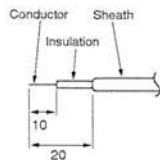
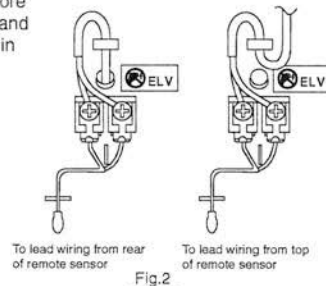

Fig.1
Fig.2
- (2) Connect the wires.
• Connect the 2-core cable to the terminal block in the lower case. Peel the sheath of the 2-core cable as shown in Fig.1, and correctly wire it as shown in Fig.2.